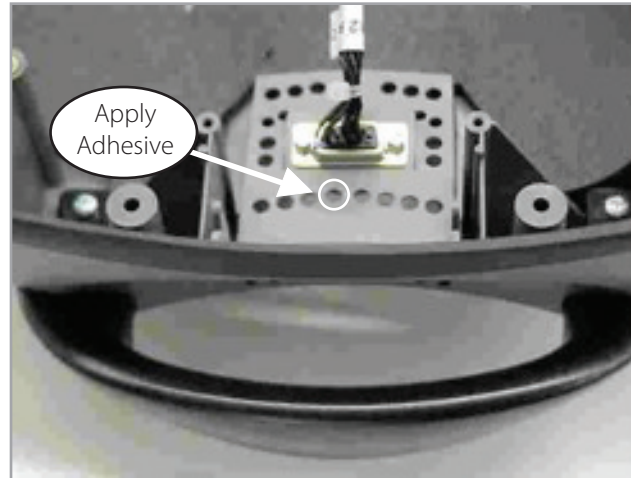

Figure 44: Bonding the Buzzer to the case.
4. To install a new buzzer, apply a ring of cyanoacrylate adhesive (Super Glue) around the inlet hole as shown in Figure 44.
5. Place buzzer as shown in Figure 44. Ensure that the buzzer opening is centered over the grill hole. Hold in place until adhesive cures.